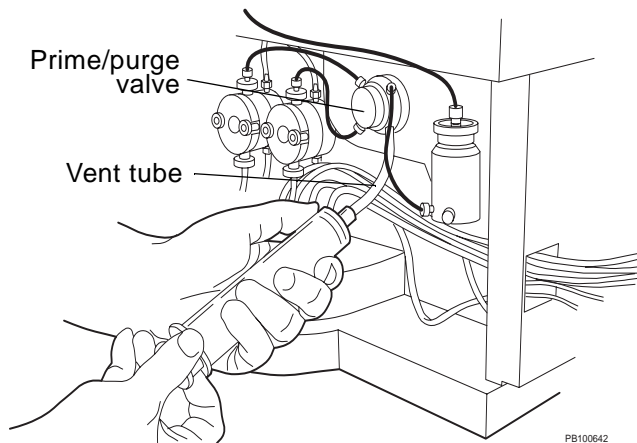

Figure 3-19 Syringe Attached to Luer-Lok Fitting on Prime/Purge Valve
1. Connect the 60 ml syringe (provided in the startup kit) to the Luer-Lok® fitting at the end of the vent tube connected to the prime/purge valve (Figure 3-19). Open the valve one-half to one full turn to the left (counterclockwise).
2. Connect the 60 ml syringe (provided in the startup kit) to the Luer-Lok® fitting at the end of the vent tube connected to the prime/purge valve (Figure 3-19). Open the valve one-half to one full turn to the left (counterclockwise).